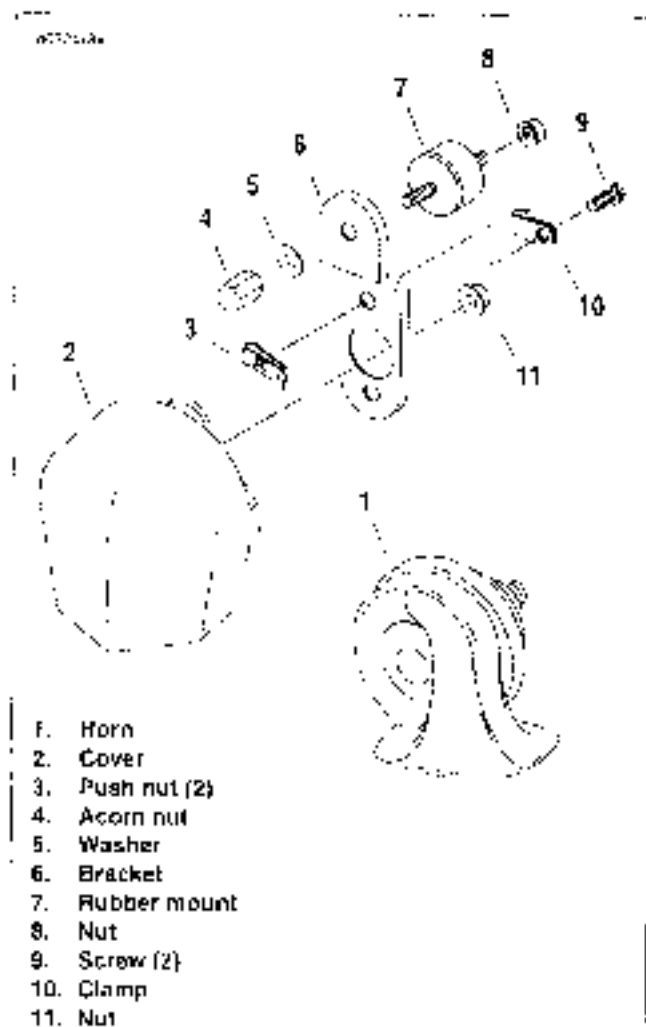
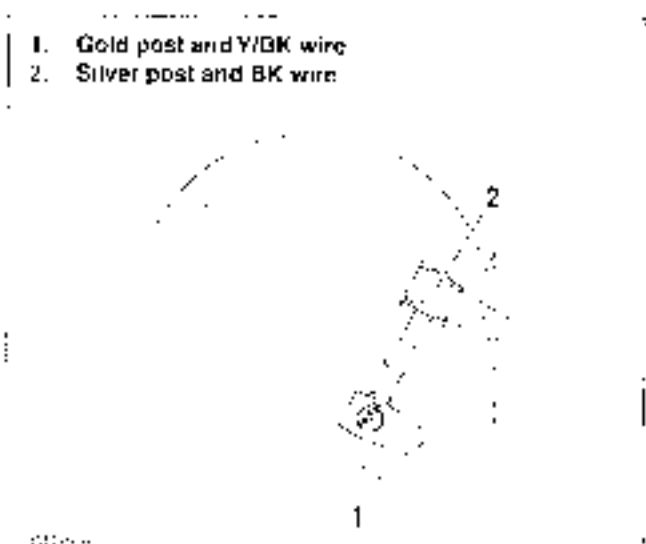

Figure 8-68. Horn
Figure 8-69. Horn Wiring
1. See Figure 8-68. Remove nut (4) and washer (5) to detach horn bracket (6) from vehicle.
2. See Figure 8-69. Disconnect wires from posts (1, 2) on back side of horn.
3. See Figure 8-68. Remove screws (9) and nut (11) to detach horn from bracket. Free wires from clamp (10).
4. Install new horn or bracket. Secure with screws (9), push nuts (3) and nut (11). Fold wires under clamp (10).
5. See Figure 8-69. Attach wiring.
- a. Connect Y/BK wire to gold post (1).
- b. Connect BK wire to silver post (2).
6. See Figure 8-68. Attach horn to vehicle using washer (5) and nut (4). Tighten nut to 80-100 in-lbs (9-11 Nm). When tightening fasteners, be sure the horn does not contact the horn cover or other parts.